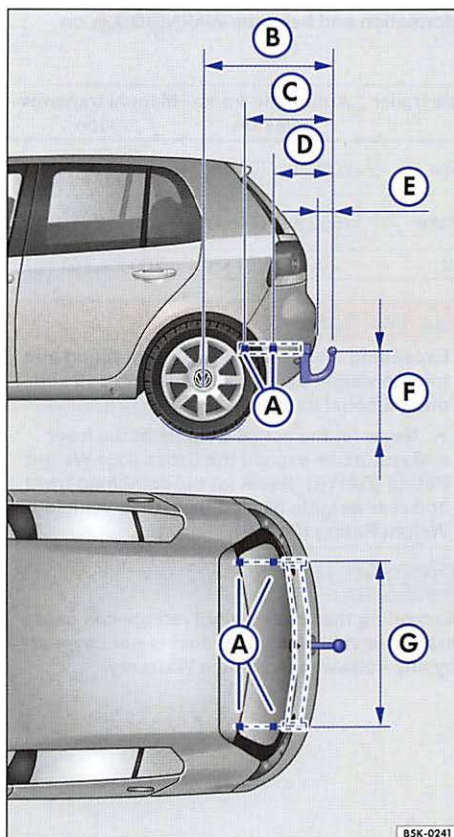

Fig. 92 Dimensions and attachment points for retrofitting a trailer hitch.
When retrofitting a trailer hitch, the specified distance dimensions must be strictly adhered to. Under no circumstances may the distance from the center of the hitch ball to the surface of the road $\Rightarrow$ fig. 92 (F) be less than the specified minimum. This minimum height must be present even when the vehicle is fully loaded and subject to the maximum tongue weight.
Distance dimensions $\Rightarrow$ fig. 92: